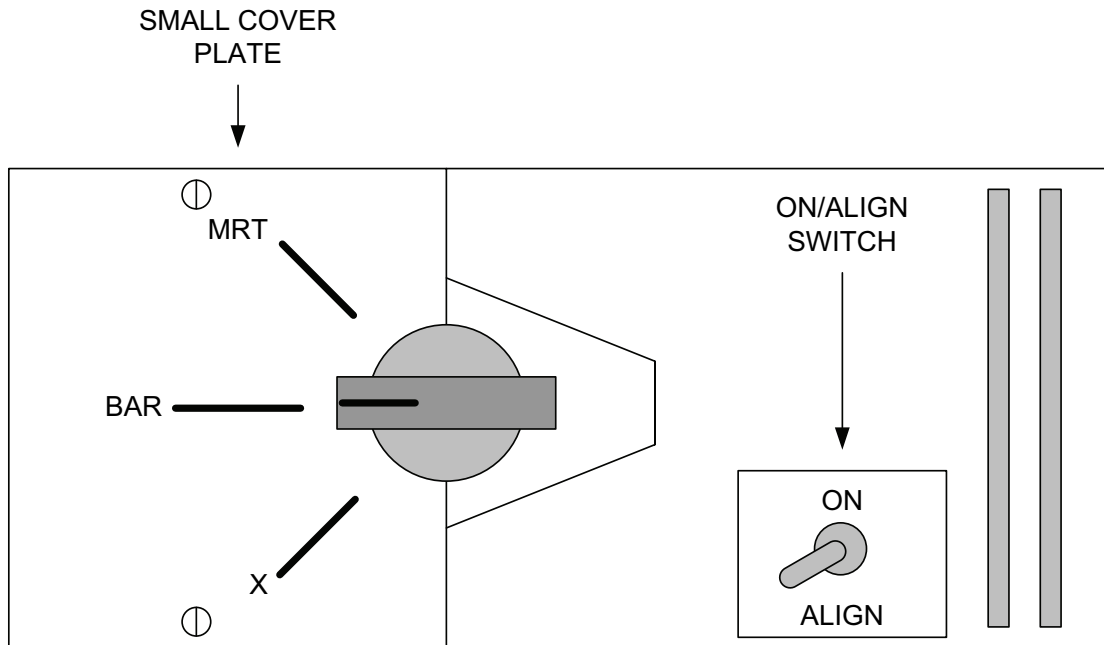

Figure 3. Large cover plate removed (top view).
- d. Set **ON/ALIGN** switch to **ALIGN** (fig. 3).
- (6) Set **ON/ALIGN** switch to **ON** (fig. 3).